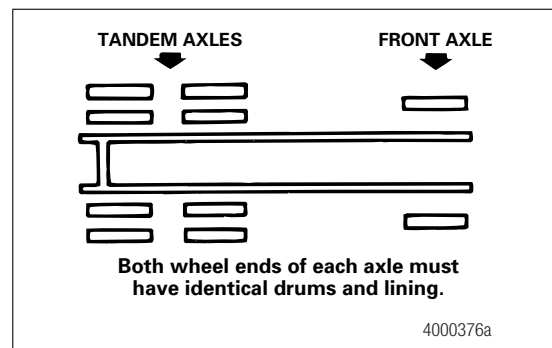

Figure 7.5
5. Both wheel ends of each axle must have the same linings and drums. All four wheel ends of tandem axles also must have the same linings and drums. It is not necessary for the front axle brakes to be the same as the rear drive axle brakes. Figure 7.5.